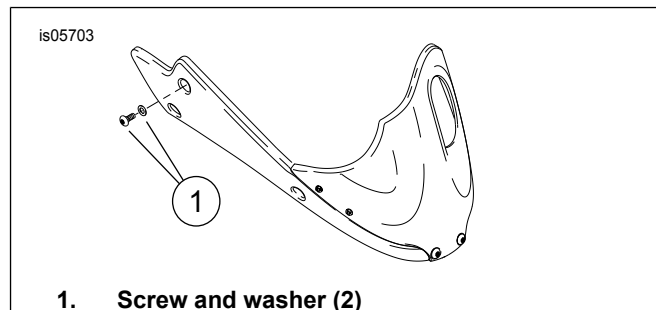
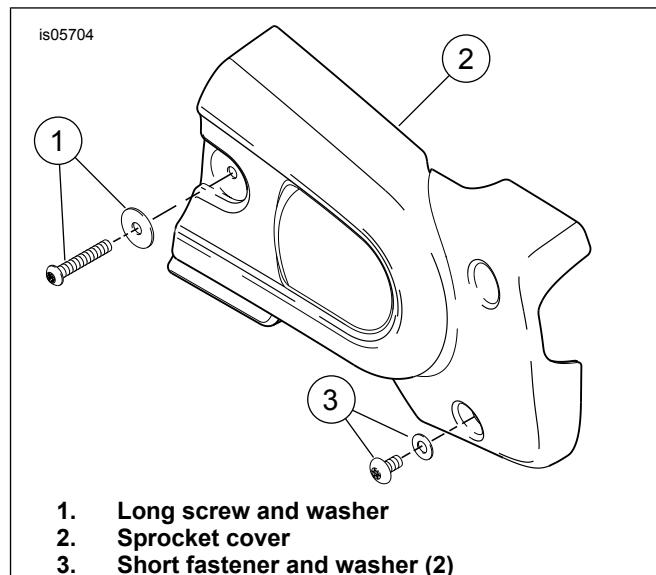

Figure 1. Remove Chin Fairing Fasteners
Figure 2. Remove Sprocket Cover
3. See Figure 1. Remove the two rear screws and washers on the chin fairing to release the sprocket cover. Save hardware for installation.
4. See Figure 2. Remove the long screw and washer (1) and short screws and washers (3) and remove sprocket cover (2) from behind the chin fairing. Save the hardware for installation.
1. See Figure 2. Position sprocket cover (2) over front sprocket and behind the chin fairing. Verify that the cover fits tightly against the sprocket cover bosses with no interference from connectors or wires.
2. Apply LOCTITE 222 (purple) to the threads of the long fastener (1). Install long fastener and washer. Install short fasteners and washers (3). Tighten fasteners to 1–4 N·m (12–36 in-lbs).
3. See Figure 1. Apply LOCTITE 243 (blue) on fasteners and tighten to 4–5 N·m (36–48 in-lbs).